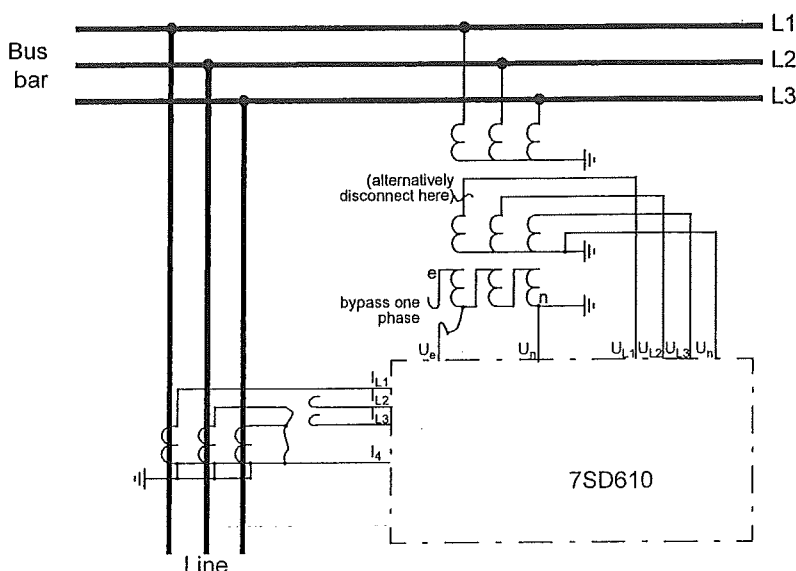
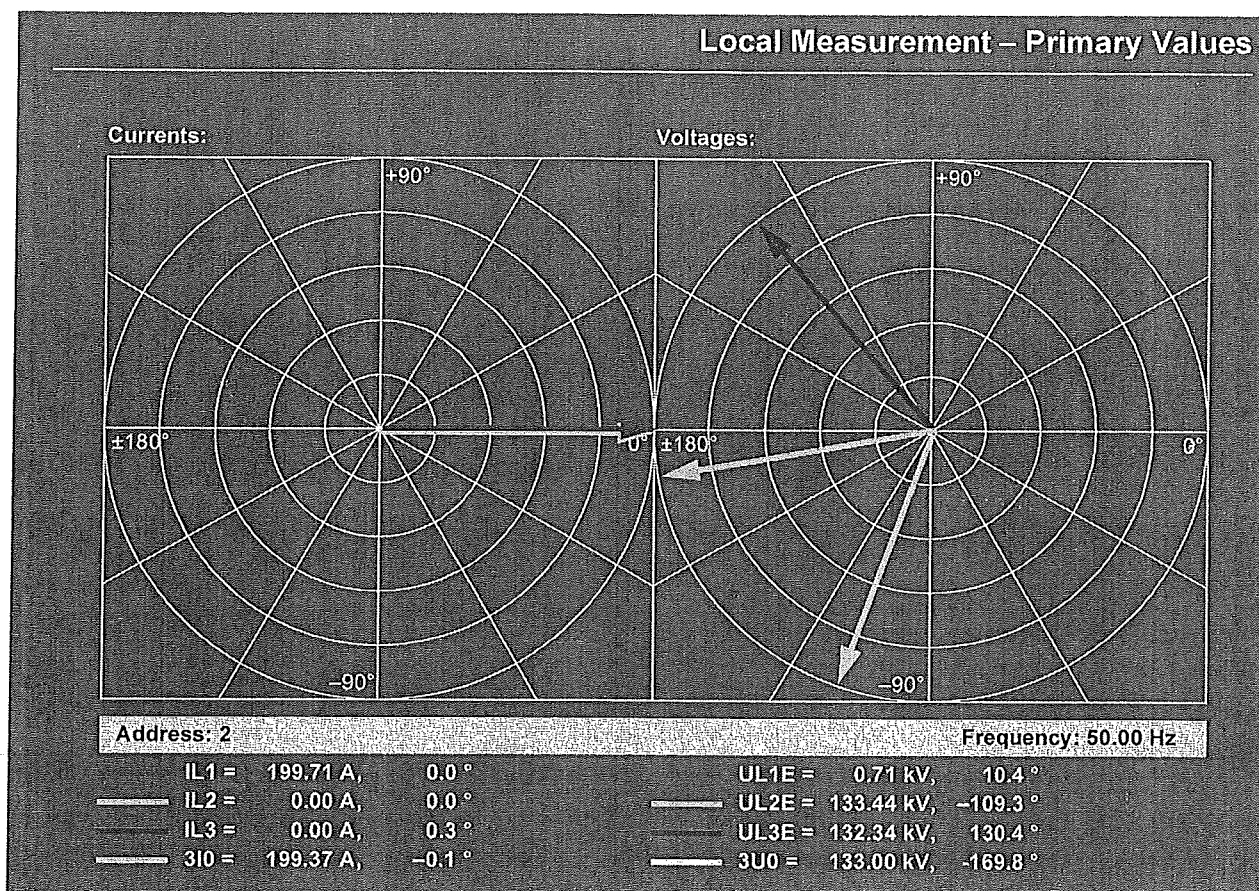

Figure 3-23 Polarity testing for I_4 , example with current transformers configured in a Holmgreen connection
Figure 3-24 Local measured values — example for single-phase, asymmetrical test
- ☐ To generate a displacement voltage, the e-n winding of one phase in the voltage transformer set (e.g. L1) is bypassed (refer to Figure 3-23). If no connection on the e-n windings of the voltage transformer is available, the corresponding phase is open circuited on the secondary side. Via the current path only the current from the current transformer in the phase from which the voltage in the voltage path is missing, is connected; the other CTs are short-circuited. If the line carries load in the first quadrant, the protection is in principle subjected to the same conditions that exist during an earth fault in the direction of the line.
- ☐ Figure 3-24 illustrates an example corresponding to the circuit in Figure 3-23, when the current flows in direction of the object to be protected. The currents I_{L2} and I_{L3} are almost zero, an earth current $3I_0$ of the same value as I_{L1} appears. Accordingly, the voltage U_{L1E} is missing and a zero sequence voltage $3U_0$ appears.